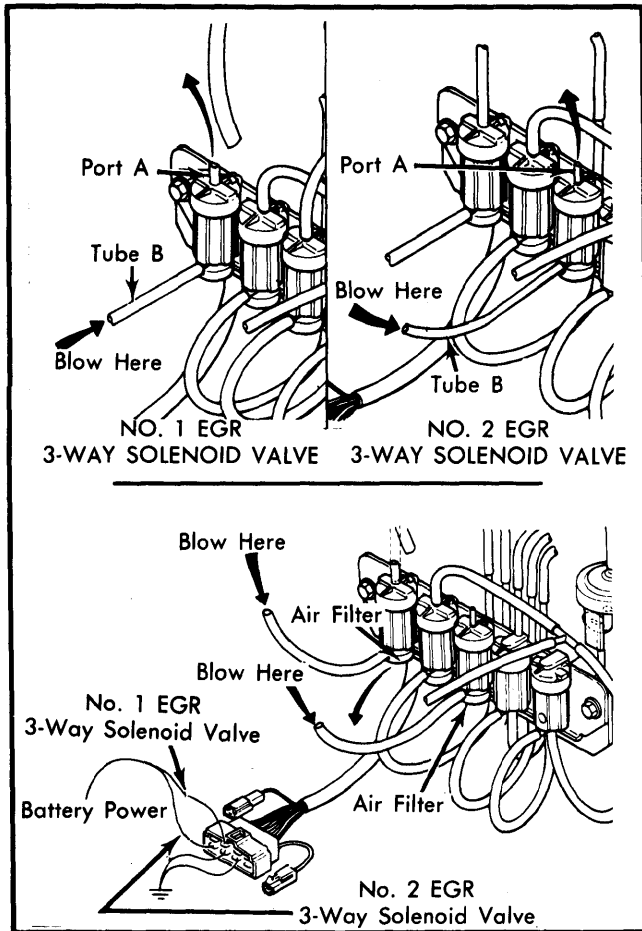

Fig. 2 Testing Mazda 626 Three-Way Solenoid Valves
1) Disconnect vacuum sensing tubes from solenoid valve and vacuum pipe. Blow through tube "B" shown in Fig. 2. Air should pass through valve and escape through port "A".
2) Disconnect electrical connector and apply battery power to terminals in connector as shown in Fig. 2. Blow through hose again; air should pass through valve and escape at solenoid valve air filter. If valve does not respond as outlined, replace 3-way solenoid valve.